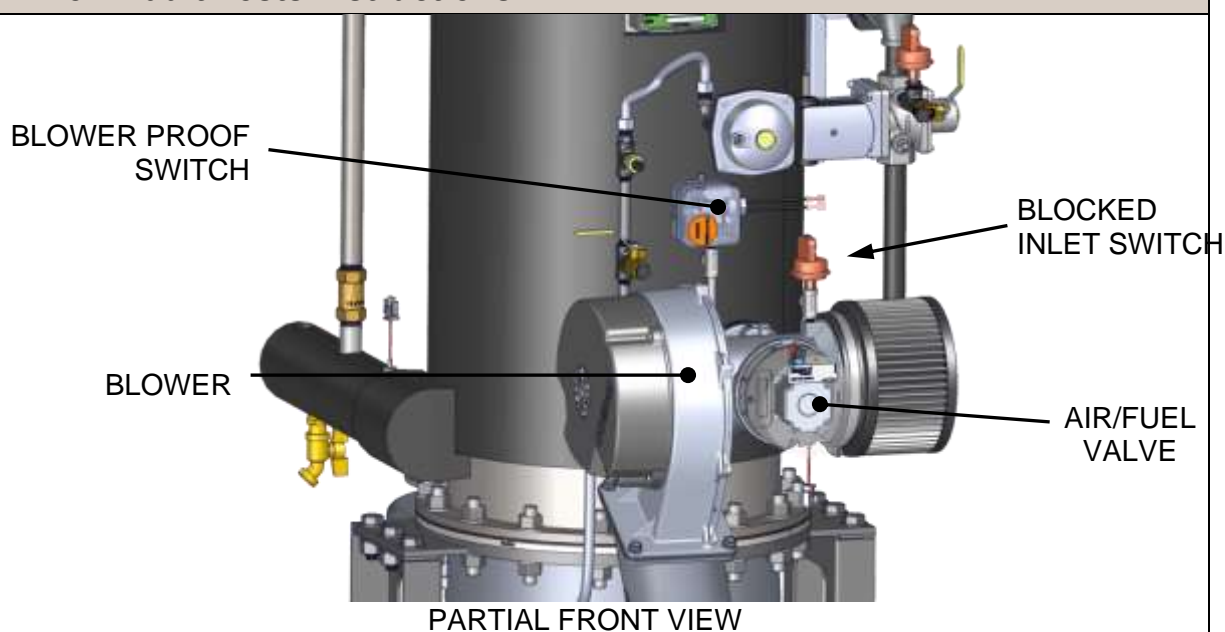

Figure 5.8-2: Blower Proof & Blocked Inlet Switch Locations
These tests check the operation of the **Blower Proof** switch and **Blocked Inlet** switch shown in Figure 5.8-2.
9. Next, check the operation of the **Blocked Inlet** switch located on the inlet side of the Air/Fuel Valve (Figure 5.8-2).